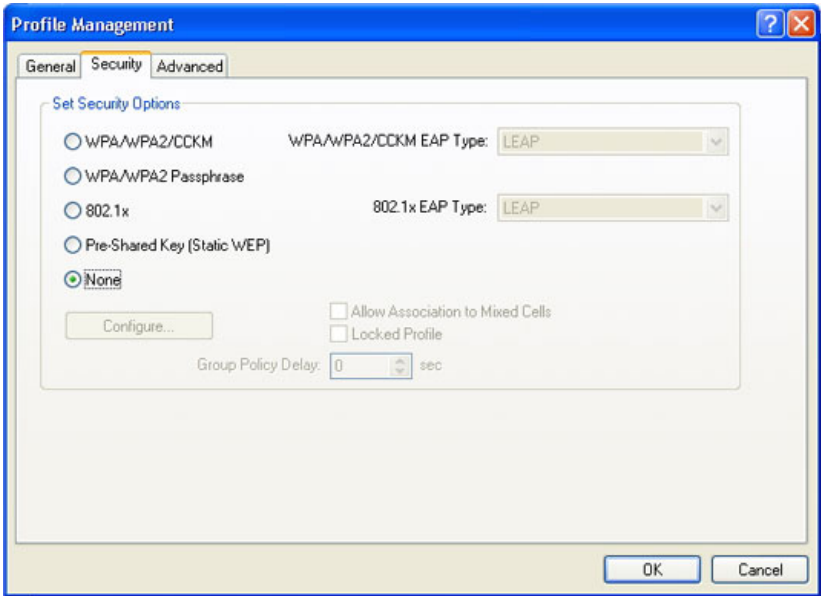

Figure 3-133    Profile Management - Security
- The “Profile Management - Security” window (see: Figure 3-133 below) enables to set parameters that control how the client adapter associates to an access point, authenticates to the wireless network, and encrypts and decrypts data.